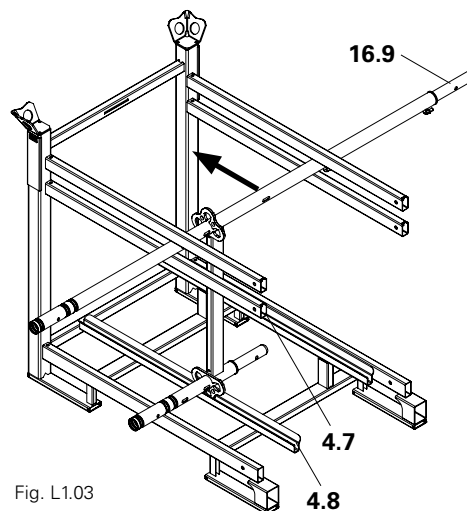

Fig. L1.03
1. Place the first Easy Frame EVF simultaneously on the bottom cantilever (**4.7**) and on the bottom support rail (**4.8**) and push it to the end of the frame. The spigot of the Easy Frame (**16.9**) is pointing to the right. (Fig. L1.03)